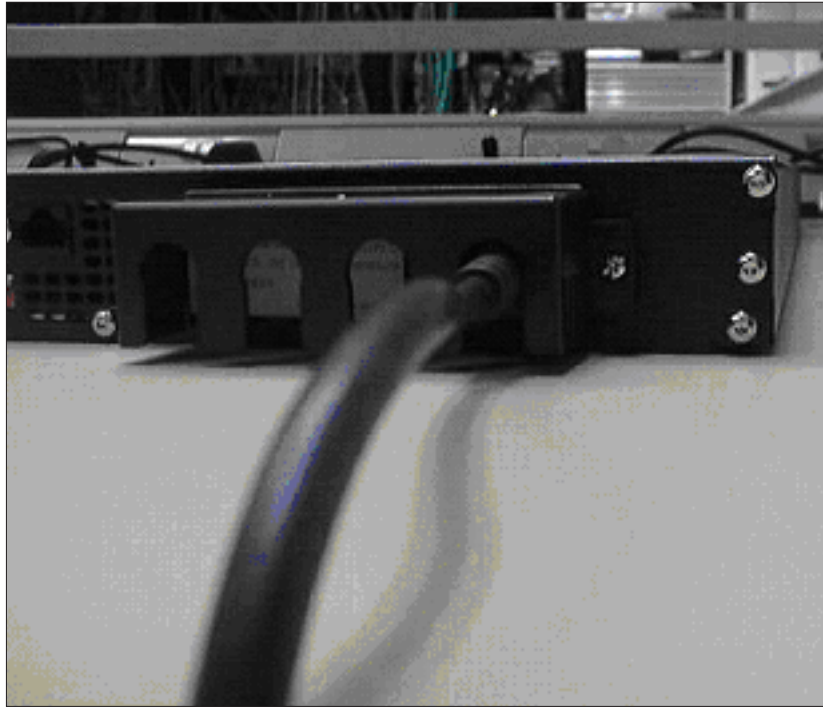

Figure 23. The 2145 UPS-1U cable retention bracket connected to the 2145 UPS-1U
4. Screw in the two screws on each end of the cable retention bracket. See Figure 23 on page 35.